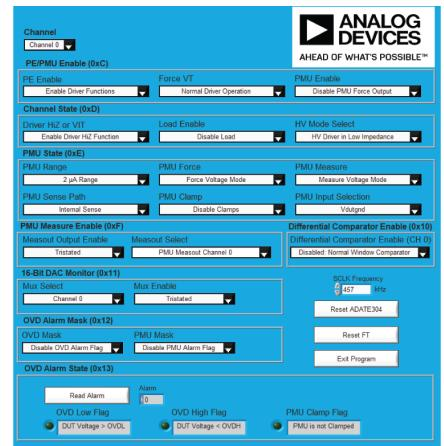

Figure 12. Mode Selection Controls Panel
- ▶ The **mode selection controls panel** located on the right side of the GUI (see Figure 12), allows the user to configure the settings of the **ADATE304**.
The mode selection controls panel allows the modification of the settings of the ADATE304 by letting the user know which register is being written to, and what specific setting is being changed (see Figure 12). Alarms can also be read from this panel. At the top left of the GUI, **Channel** is a drop-down box that controls which channel the mode selection control section is sending commands to. **Single Write** must be used to write to both channels at the same time. The mode selection controls panel of the GUI places the DCL in its various states as described in the ADATE304 specification. See the ADATE304 data sheet for a detailed description of the registers.